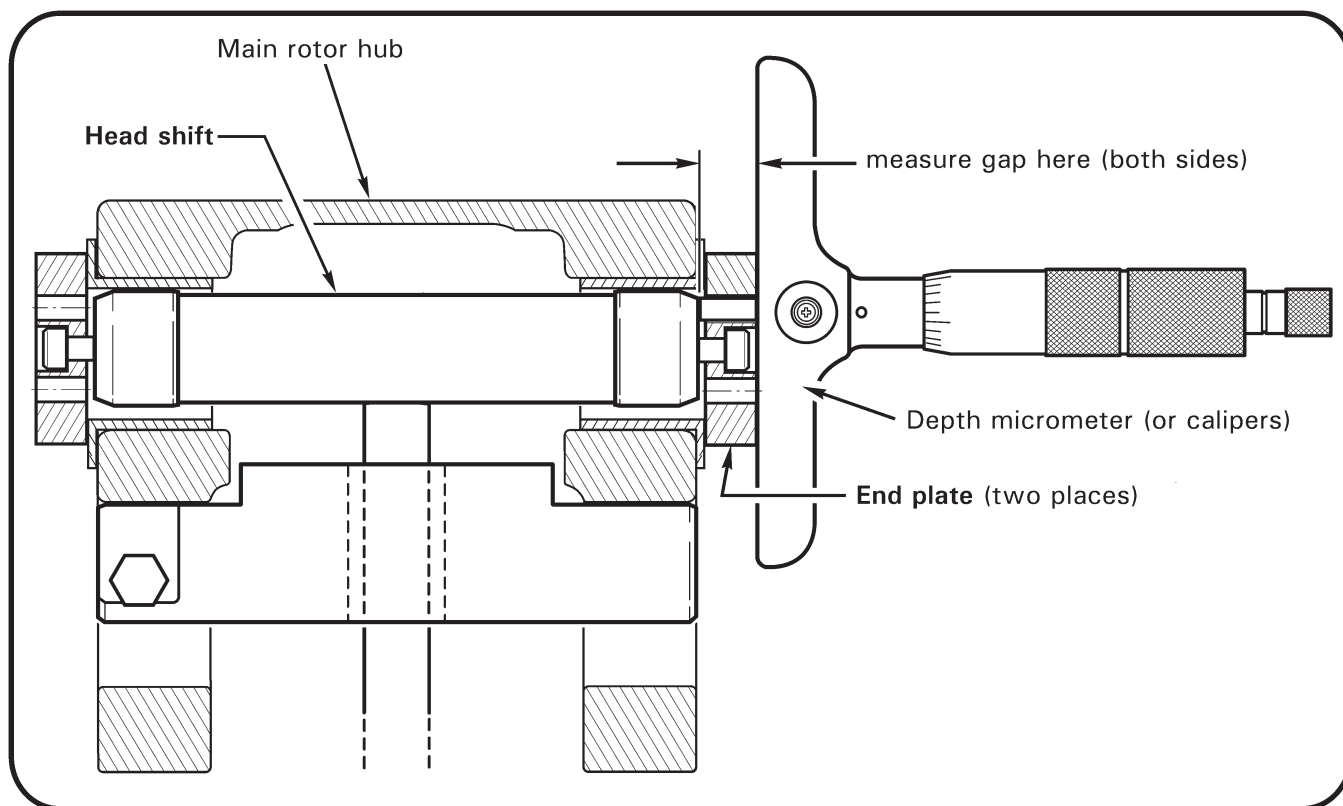

FIGURE 2-22 MEASURING GAP BETWEEN THRUST WASHER AND HUB BEARING
6. Refer to Figure 2-22. Using a depth micrometer or calipers, measure distance between MT009-2 end plate and MT009-8 shaft thru (either) end plate hole on both sides of main rotor hub. On side of hub with smaller measured distance, mark top of hub with letter "N" to indicate nut-side of teeter hinge bolt.